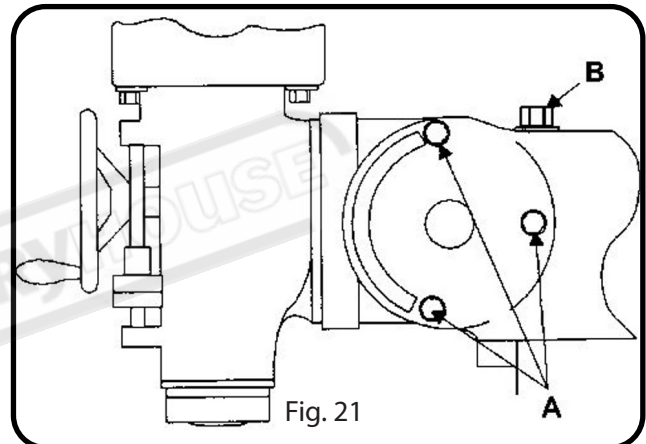
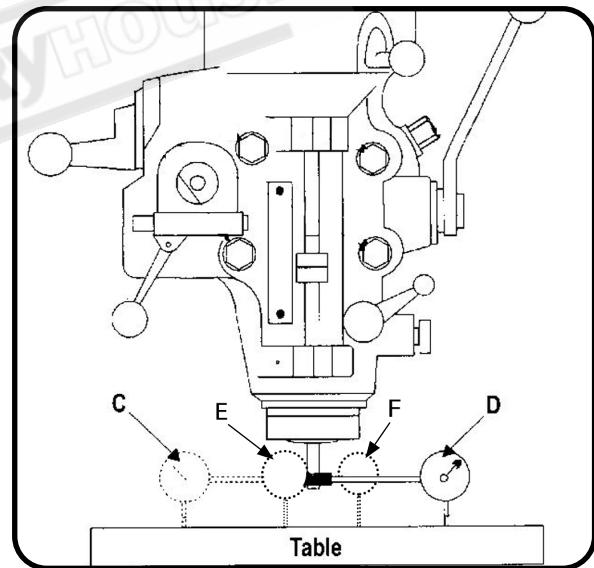

Fig. 21
Fig. 24
2. Loosen three lock bolts "A" shown in Fig.21
3. Use one hand to apply pressure to head in direction of tilt, then slowly rotate tilt-bolt "B" shown in Fig. 21
2. Put the spindle drive in neutral and rotate the spindle 180 degrees (when rotating, raise the indicator plunger to prevent it from dropping into the table T-slots (Fig. 24)
3. The indicator should read the same in position "C" and "D" (Fig. 24) of the table. If not, loosen the four hex nuts (A of Fig. 22) and reposition the mill head. . If the indicator does not read the same in "E and "F" (Fig.24) loosen the nuts "A" in Fig. 21 and reposition the mill head.